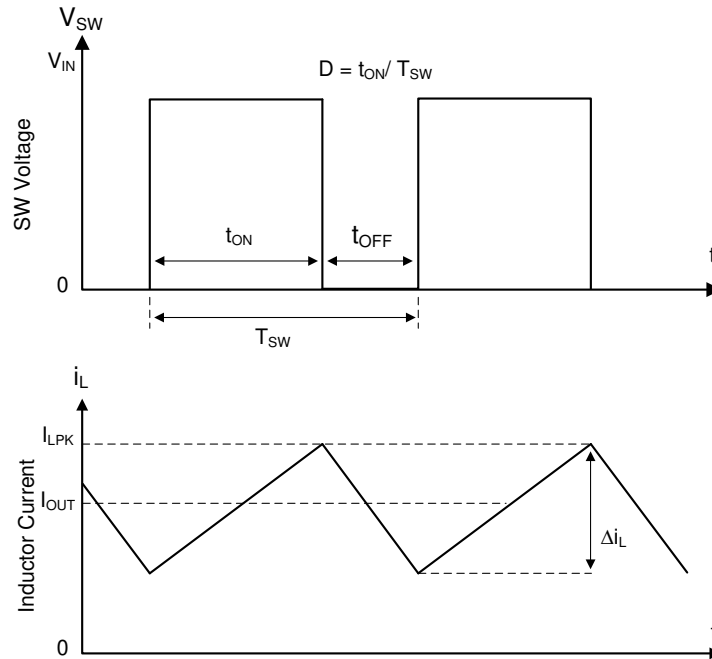

FIG 8-1. SW Node and Inductor Current Waveforms in Continuous Conduction Mode (CCM)
The following operating description of the LMR51430 refers to セクション 8.2 and to the waveforms in 図 8-1. The LMR51430 is a step-down synchronous buck converter with integrated high-side (HS) and low-side (LS) switches (synchronous rectifier). The LMR51430 supplies a regulated output voltage by turning on the high-side and low-side NMOS switches with controlled duty cycle. During the high-side switch on time, the SW pin voltage swings up to approximately V_{IN} , and the inductor current, i_L , increases with a linear slope of $(V_{IN} - V_{OUT}) / L$. When the high-side switch is turned off by the control logic, the low-side switch is turned on after an anti-shoot-through dead time. Inductor current discharges through the low-side switch with a slope of $-V_{OUT} / L$. The control parameter of a buck converter is defined as: